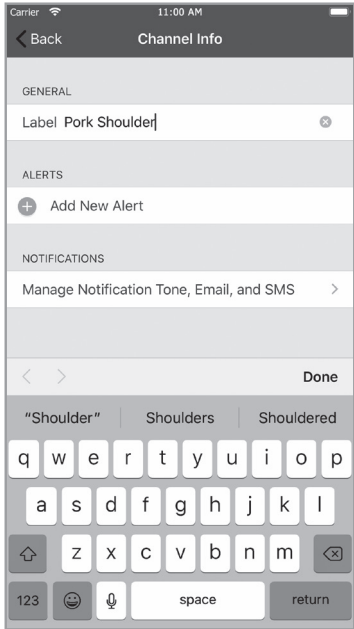

FIG 32
- The names of the two probe ports can be set according to what you’re cooking. Tapping on the probe port in the grey banner will allow you to change its name (FIG 32). This name will also be used in the various charts throughout the app.
- An alert – in the form of an app alert, an SMS text message, or an email – can be set to let you know when one of the meat probes are at a certain temp. Simply tap on the temperature shown for the probe in the gray banner, tapping “Add New Alert,” then “Set-up Alert” and set up your parameters (FIG 32, 33).